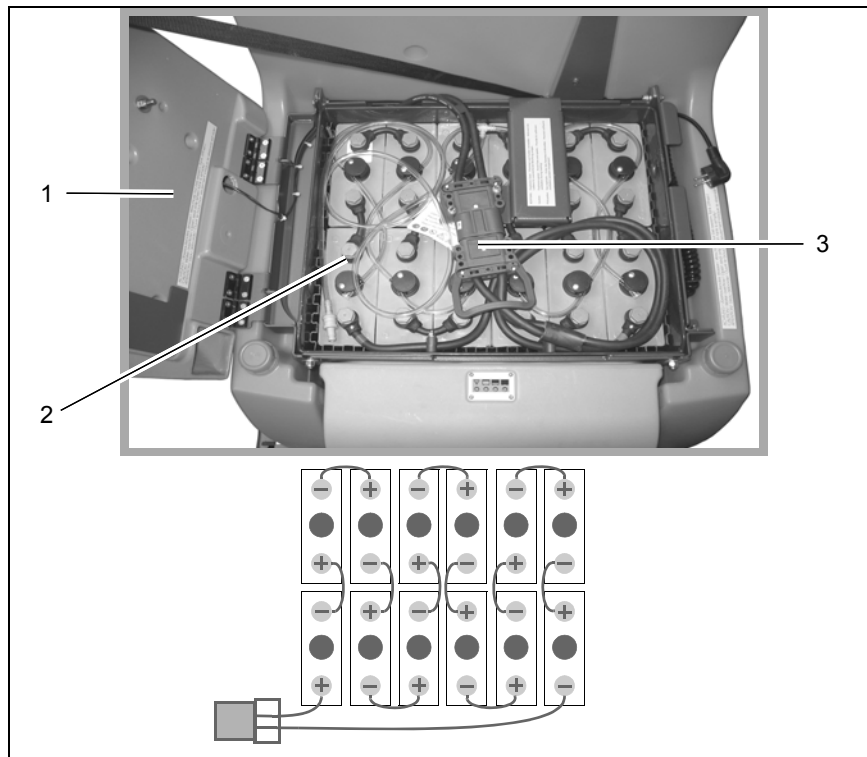

Fig. 4
2. Open the seat console (Fig. 4/1).
3. Install the battery (Fig. 4/2) in the battery trough accordance with illustration.
4. Check the battery plug (Fig. 4/3), refer to Section 2.2.6.